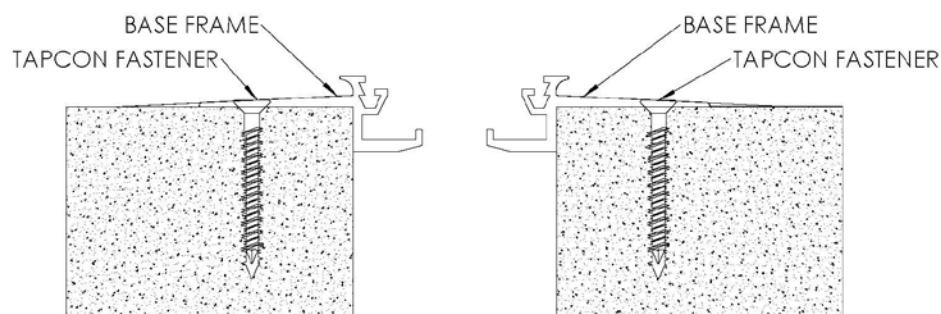

FIGURE 1
1. Position base member frames in expansion joint per shop drawings. Using the frames as a template, mark and drill 5/32" holes in the concrete. Install base member frames with supplied Tapcon fasteners, making sure not to over tighten. **See Figure 1**